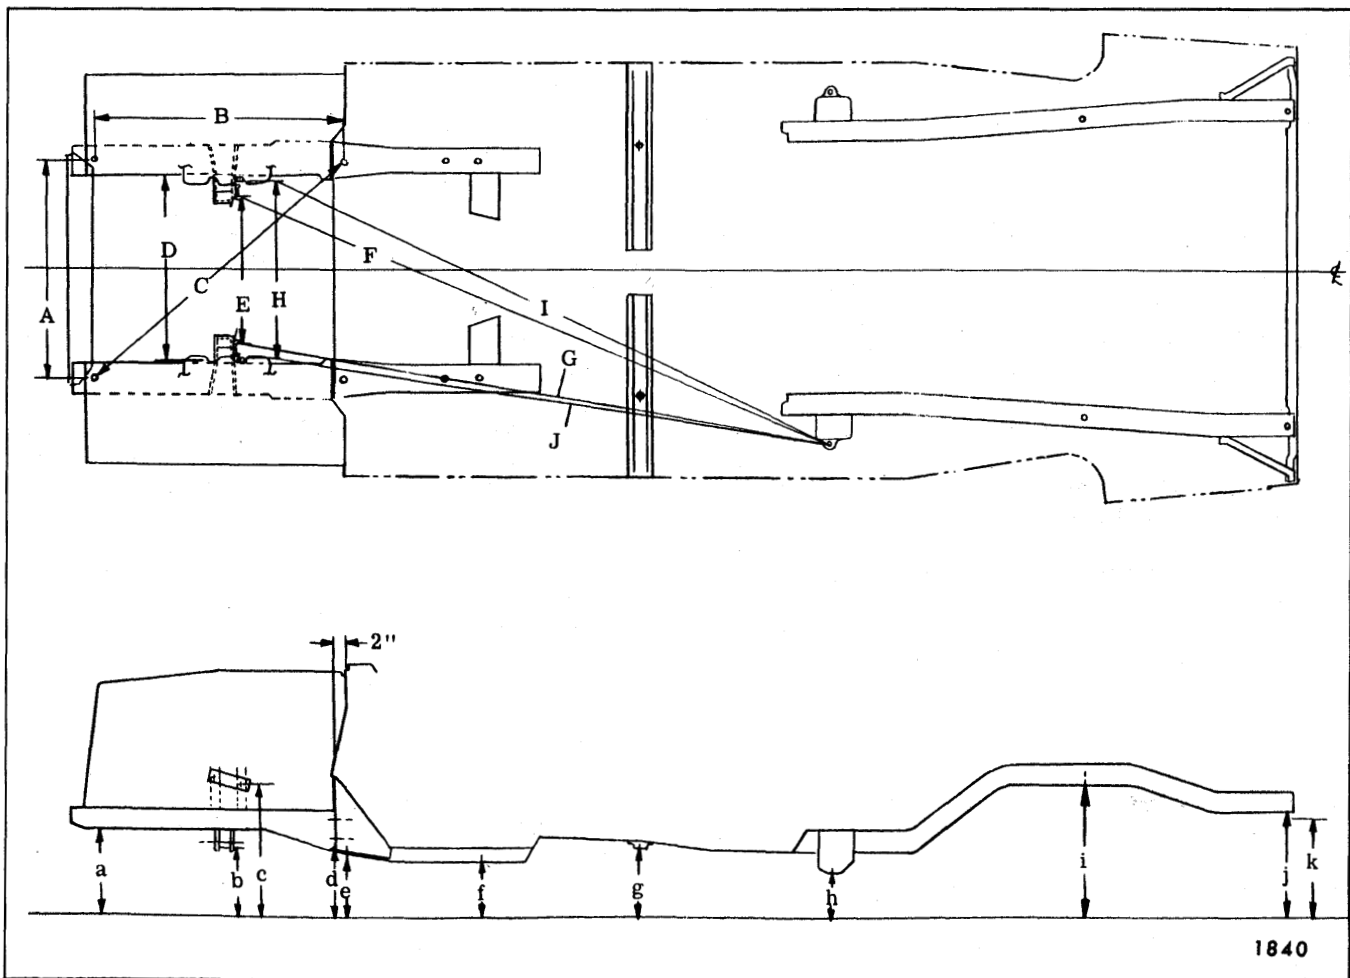
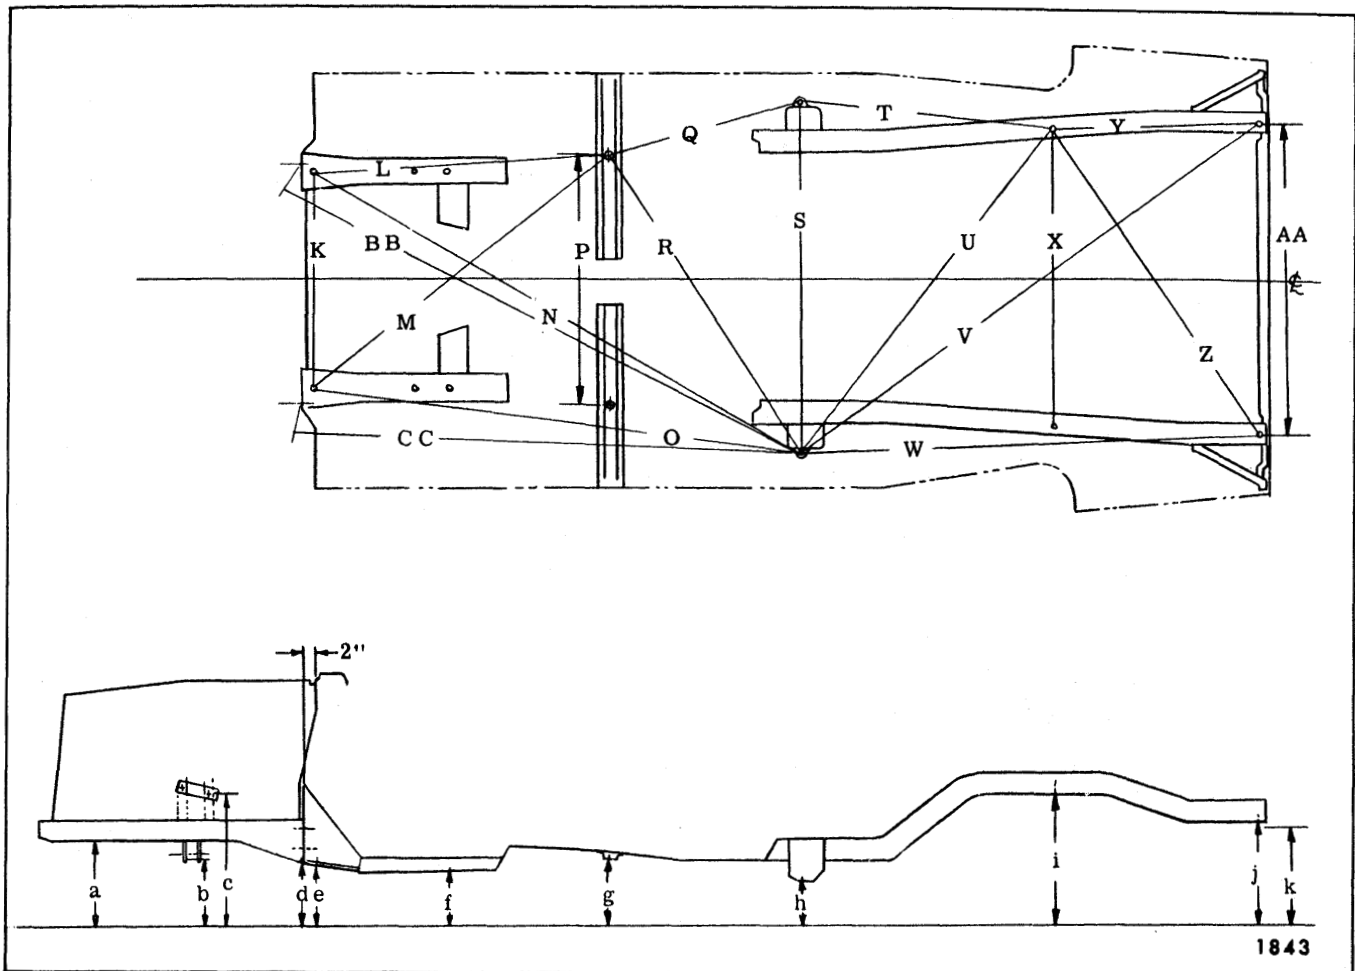
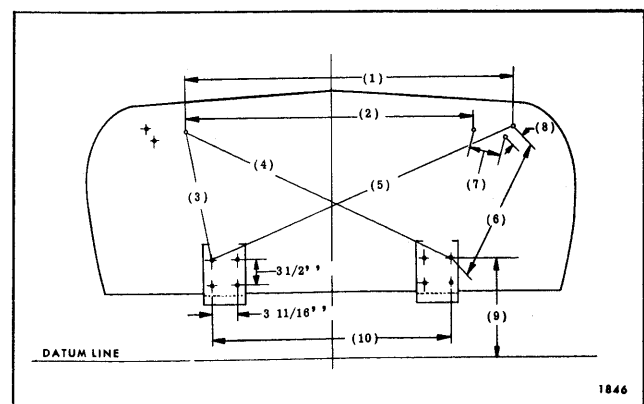

Fig. 1-12—Horizontal and Vertical Dimensions (Front Skirt Assembly)
Fig. 1-13—Horizontal and Vertical Dimensions (Body Assembly)
Fig. 1-14—Front View of Cowl and Dash
CAUTION: Do not change skirt assembly-to-dash shimming in an effort to adjust the door-to-fender gap or any other sheet metal appearance item. These shims regulate the front end assembly relationship to the body and should only be used to correct dimensions as shown in Figures 1-12 and 1-13.
Horizontal dimensions shown in the upper portion of Figures 1-12 and 1-13 are calculated on a plane parallel to the plane of the underbody. Precision measurements can be made only if the tram gage is properly adjusted so as to remain parallel to the plane of the underbody during measuring operations.
- b. The vertical dimension from the datum line to the points to be trammed. As an example, the diagonal measurement (calculated on a horizontal plane) between reference points of dimension line 'N', shown in Figure 1-13, is 78 25/32 inches. The specifications from the datum line have a vertical height difference of 3 5/16 inches between the forward location of dimension 'N' (at vertical dimension 'e') and the rearward location of dimension 'N' (at vertical dimension 'h'). The vertical pointer used at the forward location should be positioned so as to extend 3 5/16 inches further from the tram bar than the pointer used at the rearward location. With the proper settings the tram bar will be on a plane parallel to that of the body plane. The exception to this would be when one of the reference locations is included in the misaligned area; then the parallel plane between the body and the tram bar may not prevail. After completion of the repairs, the tram gage should be set at the specified dimension to check the accuracy of the repair operation.
Underbody Alignment Reference Point Dimensions (Figures 1-12, 1-13, and 1-14)
Figure 1-12 specifies dimension reference locations required for alignment of front end skirt assembly and for alignment of front end skirt assembly to body assembly. Figure 1-13 specifies dimension reference locations required for alignment of underbody assembly. Figure 1-14 specifies cowl and dash reference locations required to check the skirt assembly attaching hole locations.
(See Figure 1-13 and 1-12)**